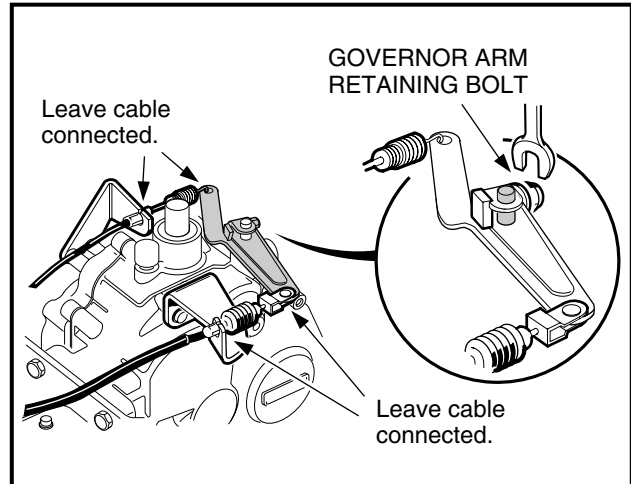

Figure 16b-37 Governor Arm
18. Loosen, but do not remove, the governor arm retaining bolt. Remove the governor arm from the shaft (**Figure 16b-37, Page 16b-17**).